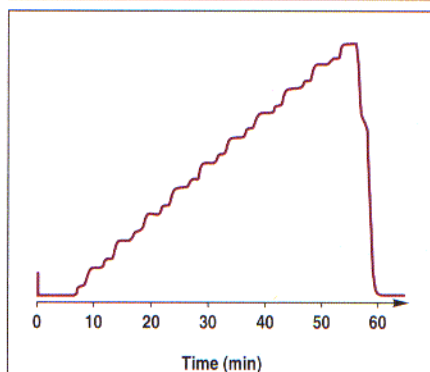

FIGURE 2: Unacceptable gradient step test showing small secondary steps between each major step. See text for details.
When I discussed mobile-phase proportioning problems in an earlier column, a reader had submitted an odd step-gradient profile (reproduced here as Figure 2) that showed secondary steps between each major step (4). The reader found that he could obtain a normal stair-step profile by replacing two stainless steel filters in his autosampler, but the original reason for the anomalous results was still unidentified. A similar report from a second source confirmed that this problem is not unique (5). In this second case, a partially blocked piece of tubing was the source of the problem.
is equal, then this stream will be diluted 1:1 with the previous solvent exiting the sample loop. When the sample loop is flushed fully, the two streams are again the same, so no dilution takes place. Therefore, the step will double in size. The resulting plot of a step test would show a substep approximately half the size of each major step. This explanation neatly fits the symptoms of the problem of Figure 2 in which a small step was observed and then the normal major step appeared.